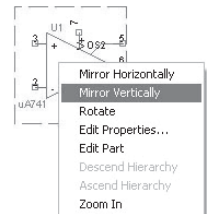

FIGURE 11.36 Mirror vertically.
2. Next, right click on the uA741 part and choose “Mirror Vertically” to invert the part upside down as shown in Figure 11.36.